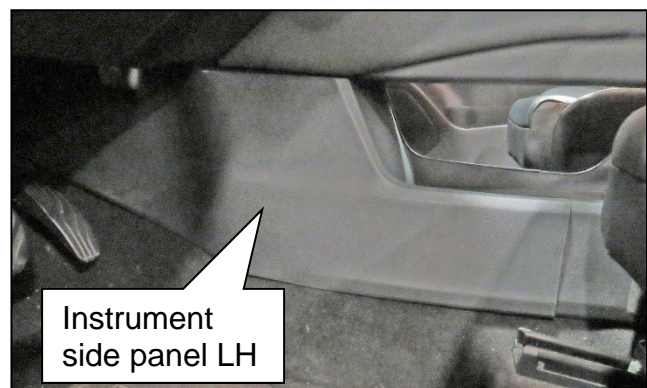

Figure 3
3. Remove the instrument side panel LH from the center console (Figure 3).